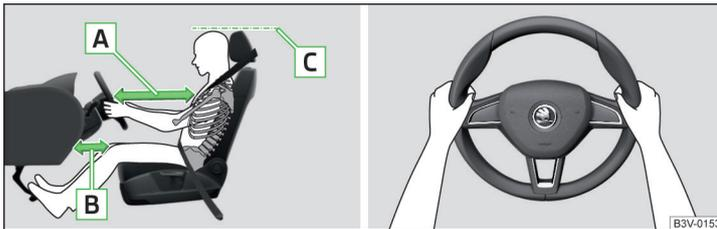

Fig. 2 Correct seated position for the driver/correct steering wheel position
- ✓ For vehicles equipped with driver knee airbags, adjust the driver's seat in a forward/back direction so that there is a gap of at least 10 cm between the legs and the dashboard in the vicinity of the knee airbag » Fig. 2 - B.
- ✓ Adjust the steering wheel so that the distance between the steering wheel and your chest is at least 25 cm » Fig. 2 - A.
- ✓ Adjust the headrest so that the top edge of the headrest is at the same level as the upper part of your head (not for seats with integrated headrests) » Fig. 2 - C.
- When driving, hold the steering wheel with both hands firmly on the outer edge in the "9 o'clock" and "3 o'clock" position » Fig. 2. Never hold the steering wheel in the "12 o'clock" position or in any other way (e.g. in the middle, inner edge of the steering wheel or similar). Otherwise, in the event of airbag deployment, you could suffer serious injury to the arms, hands and head.
- ✓ Adjust the headrests so that the top edge of the headrest is at the same level as the upper part of your head » Fig. 2 on page 13 - **C** (not for seats with integrated headrests).
- ✓ Adjust the headrests so that the top edge of the headrest is at the same level as the upper part of the head » Fig. 2 on page 13 - **C**.